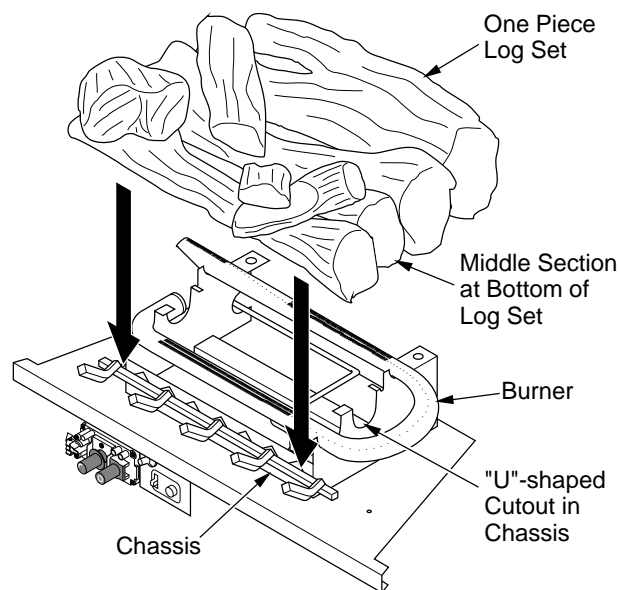

Figure 24 - Installing One Piece Log Set
1. Place one-piece log set on grate to fit as illustrated in Figure 24. Make sure middle section at bottom of log set is seated into "U"-shaped cutout in center of chassis (see Figure 24).